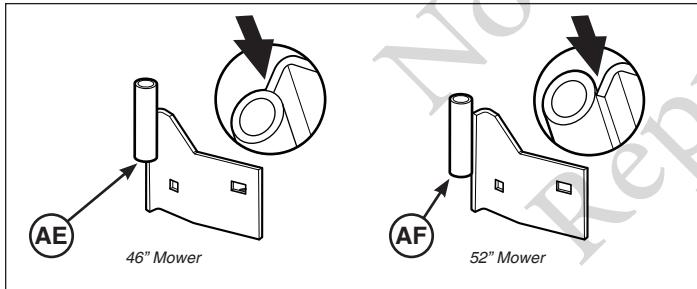

Figure 9
1. Select proper pivot bracket for the 46" or 52". See Figure 9.